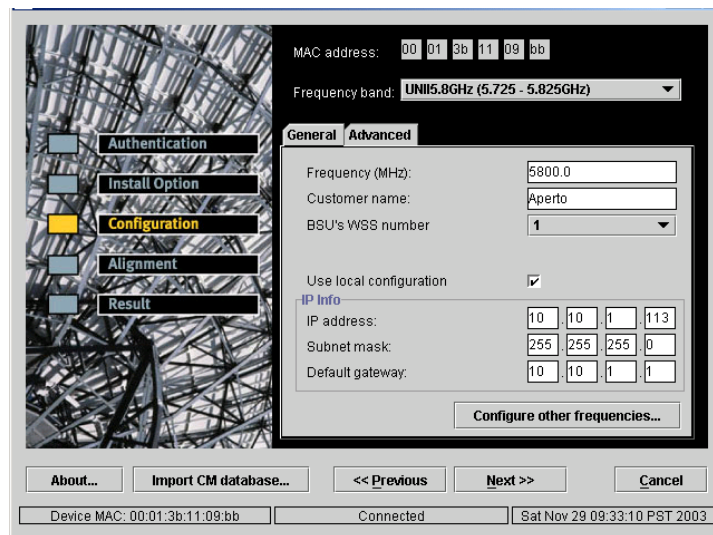

Figure 5-5 Configuration Window: General
9. In the Install Option window, select **Setup**; then click on the **Next>>** button. The Configuration Window will be displayed, as shown in *Figure 5-5*. The Configuration Window shows the configuration retrieved from the PacketWave 200. The MAC address should be the same as recorded on the label on the unit.
11. With the **General** tab selected in the Configuration Window as shown in *Figure 5-5*, configure the following parameters as appropriate: